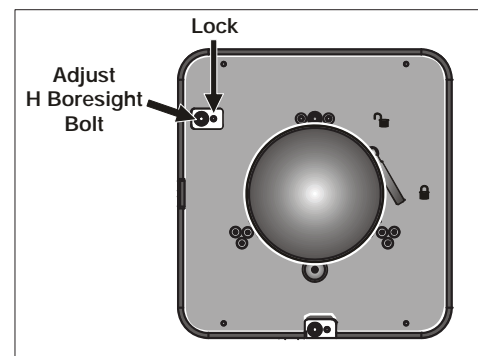

Figure 2-49 Adjusting Left/Right
3. Adjust the horizontal boresight bolt (Figure 2-49) as necessary to direct or "aim" the lens toward the side of the image which focused too close to the lens. When both sides appear equally blurry, re-focus on the left side of the screen.